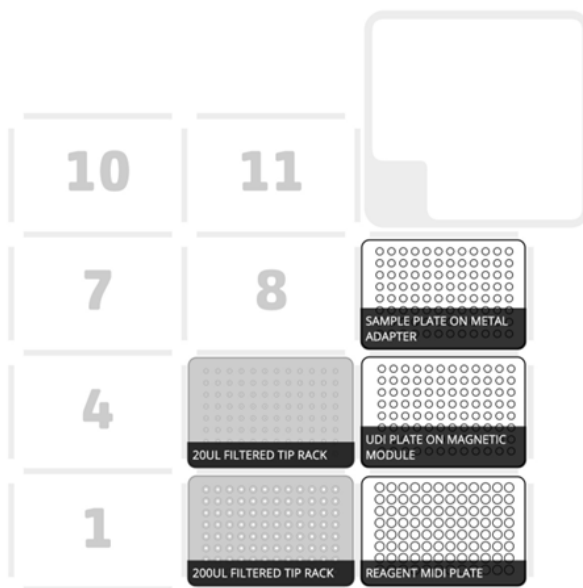

Figure 5. Deck map for Post 1 – Enrichment protocol.
- h. Load reagents and other labware onto the deck as shown in the deck map (also shown in Figure 5 on the next page).
- j. Load reagents and other labware onto the deck as shown in the deck map (also shown in Figure 5).